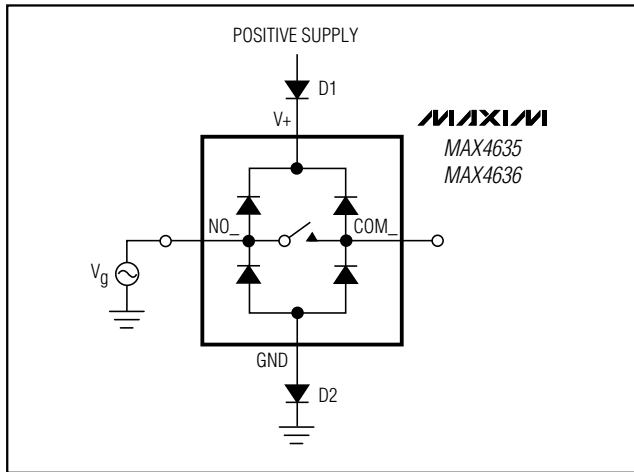

Figure 5. Overvoltage Protection Using Two External Blocking Diodes
**Caution: Do not exceed the absolute maximum ratings because stresses beyond the listed ratings can cause permanent damage to the device.** Proper power-supply sequencing is recommended for all CMOS devices. Always apply V+ before applying analog signals, especially if the analog signal is not current limited. If this sequencing is not possible, and if the analog inputs are not current limited to less than 30mA, add a small-signal diode (D1) as shown in Figure 5. If the analog signal can dip below GND, add D2. Adding protection diodes reduces the analog range to a diode drop (about 0.7V) below V+ (for D1), and a diode drop above ground (for D2).
On-resistance increases slightly at low supply voltages. Maximum supply voltage (V+) must not exceed +6V. Adding protection diode D2 causes the logic threshold to be shifted relative to GND. Protection diodes D1 and D2 also protect against some overvoltage situations. With Figure 5's circuit, if the supply voltage is below the absolute maximum rating, and if a fault voltage up to the absolute maximum rating is applied to an analog signal pin, no damage results.